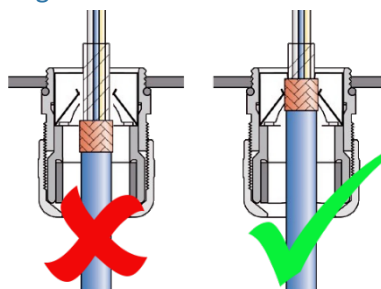

Figure 5-4 - Cable Shielding
**CAUTION:** Make sure the shielding is intact and correctly positioned to ensure the device is grounded properly as shown in Figure 5-4 below.